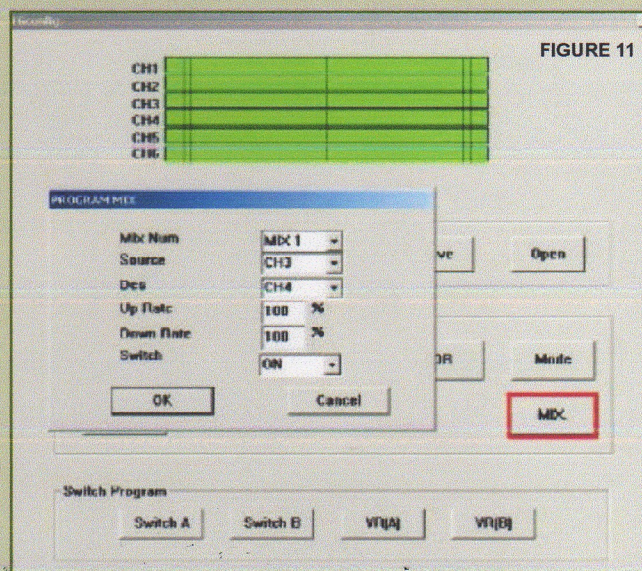

FIGURE 11
6. Mixing for Tank steer (if this is not done by the Drive ESC) can set up through use of the "Mix" button (**Figure 11**). The values shown worked well for my bots.